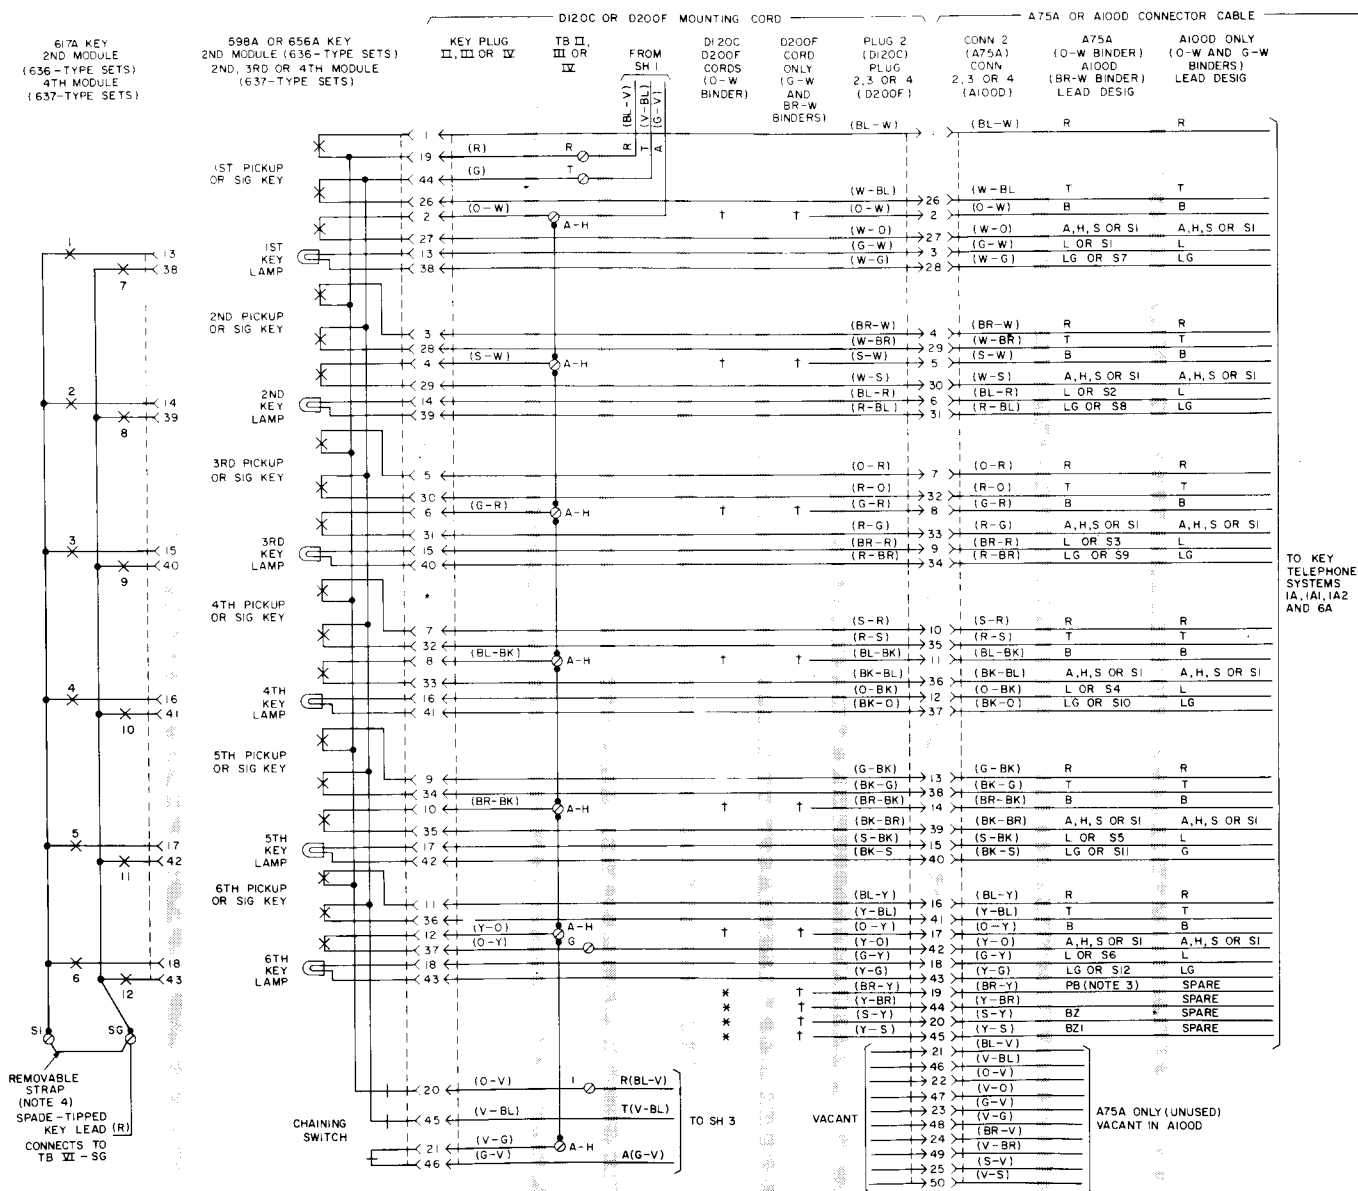

Fig. 4—Module Arrangements and Cord and Cable Connections for Sets Equipped with Even-Count Color-Code Cords (Sheet 2 of 3)
2.03 Replacement or substitution of the key in the first module may require wiring changes as shown in the notes for Fig. 4 and 5.